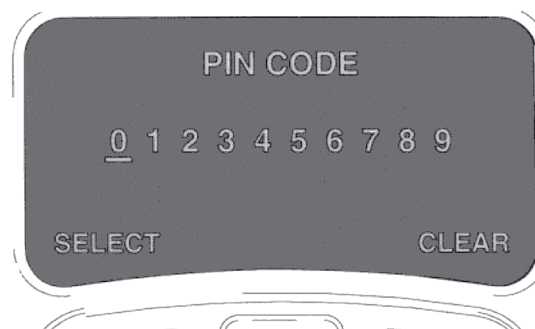

FIG. 9
On the right side of the display is a series of four bars under the word BATT. See FIG. 9. The presence of all four bars indicates a fully charged battery. The bars decline in number as the battery discharges when the meter is used. When one bar is shown the battery needs to be recharged.
1. Enter the operator 4-digit pin code using the left arrow and right arrow buttons. The clear button erases the last selection and allows a new selection to be made. The meter displays an asterisk for each digit that is entered. See FIG. 9.